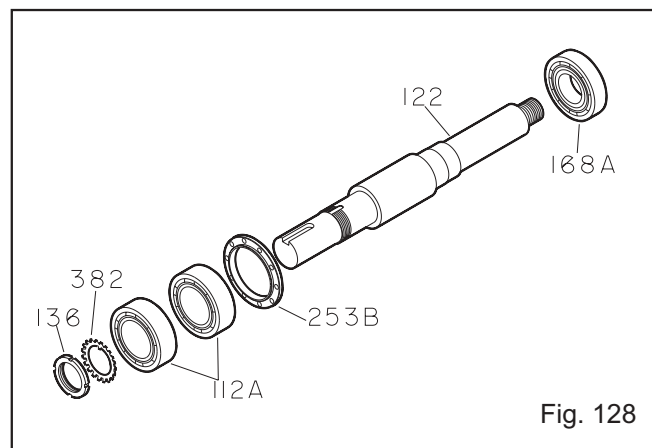

Fig. 128
4. Place lockwasher (382) on shaft (122). Place tang of lockwasher in keyway of shaft (Fig. 128).
5. Thread locknut (136) onto shaft (122). Tighten locknut until snug. Bend any tang of lockwasher (382) into a slot of locknut.